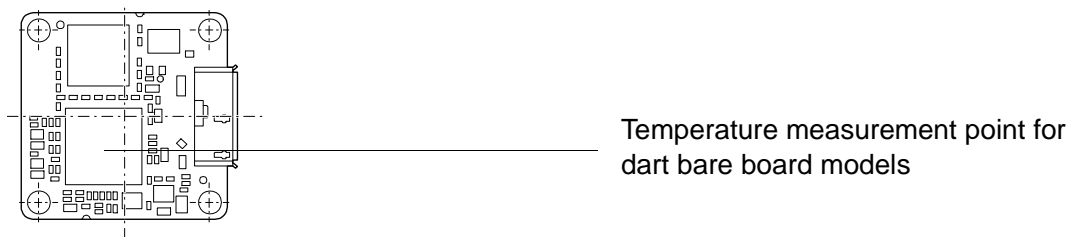

Fig. 14: Device Temperature Measurement Point (Bare Board Models)
* Temperature measured at the hottest point on the board. This point is significantly hotter than the other parts on the board. See Figure 14.